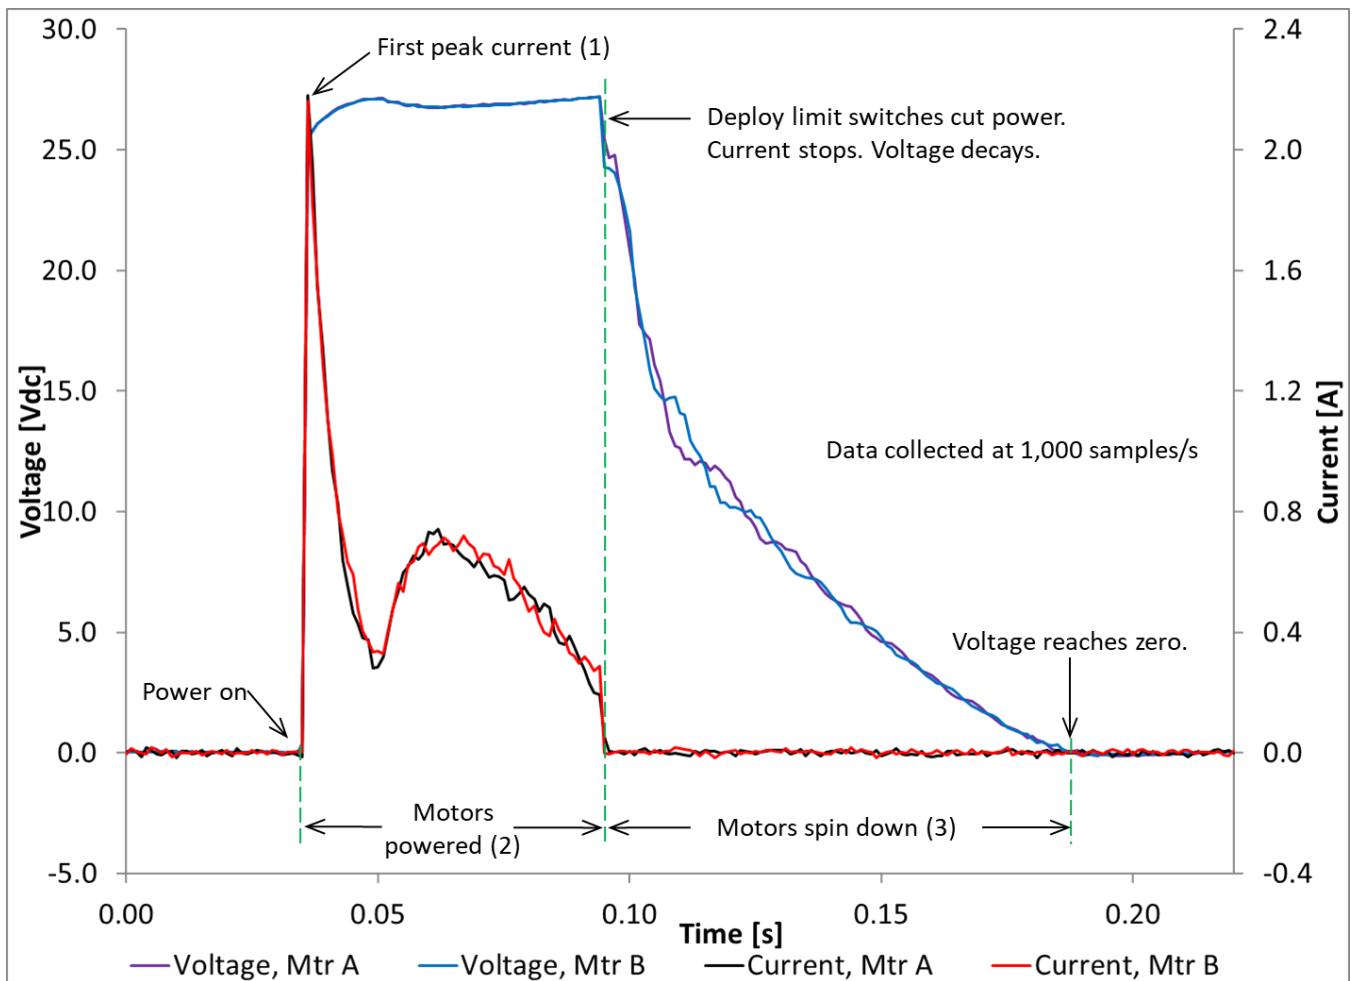

Figure 11-5: Example Deploy voltage and current profiles at NTP
11.4.6	<p>To Deploy the Lightband:</p> <ol style="list-style-type: none"> 1. Read through this entire step. <ol style="list-style-type: none"> a) Assign personnel and responsibilities prior to start of operation. 2. See Figure 11-5 and Table 11-1 for the anticipated current draw and power duration. 3. If a force was applied per step 11.4.1 the Upper Ring will not move. This force will be removed at a later step, allowing the Separation Springs to extend. 4. Designate a person to watch the power source output display. <ol style="list-style-type: none"> a) Manually cut power if the current limit is reached or the timer relay runs longer than specified. 5. Turn on the power source output. 6. Verify the oscilloscope trigger is active and ready to acquire data. 7. Activate the timer relay. This will send power to the motors and Deploy the Lightband. The Lightband should Deploy in ≤ 0.1 s and the Deploy limit switches on the Motor Bracket Assembly will automatically cut power to the motors. <p>If the designated person needed to manually cut power, contact PSC per Section 5. A visual inspection of the Lightband may be performed, but do not change configuration.</p>
11.4.10	<p>Figure 11-5 shows example Deploy voltage and current profiles. Complete Table 11-1 to verify all parameters are within tolerance. Single data point exceedances are acceptable. Also, a slow sample rate may alias data. Do not filter data. Contact PSC immediately if a discrepancy is found.</p> <p>Remember to account for non-zero offsets in the voltage or current measurements.</p>